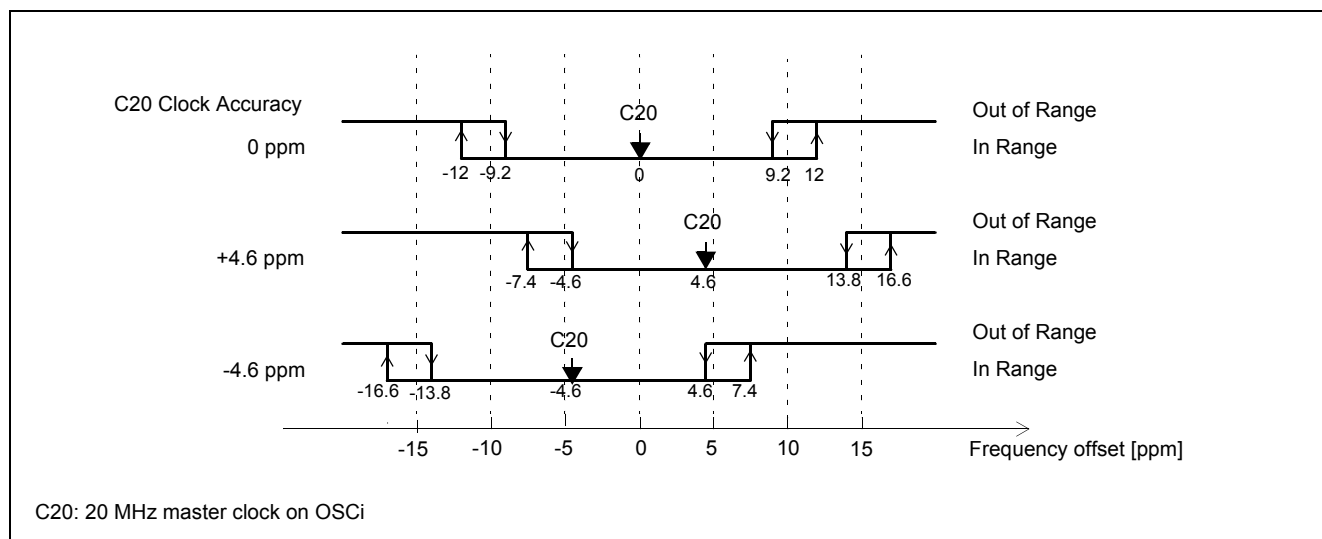

Figure 5 - Out-of-Range Thresholds
- **Precise Frequency Monitor (PFM):** This circuit determines whether the frequency of the reference clock is within the applicable accuracy range of ± 12 ppm, see Figure 5. It will take the precise frequency monitor up to 10 s to qualify or disqualify the input reference.
The precise frequency monitor's failure thresholds are compatible with Telcordia GR-1244-CORE Stratum 3 as shown in Figure 5. It will take the precise frequency monitor up to 10 s to qualify or disqualify the input reference.